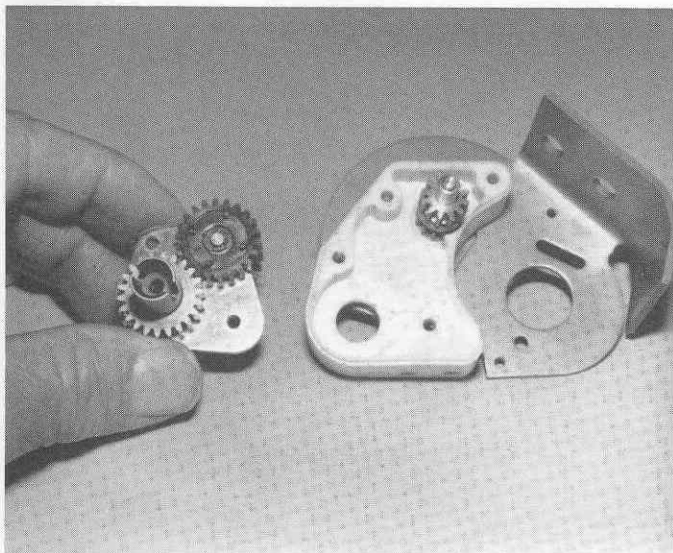

Fig. 84
- ☐ **Fig. 84** Take the idler gear assembly.